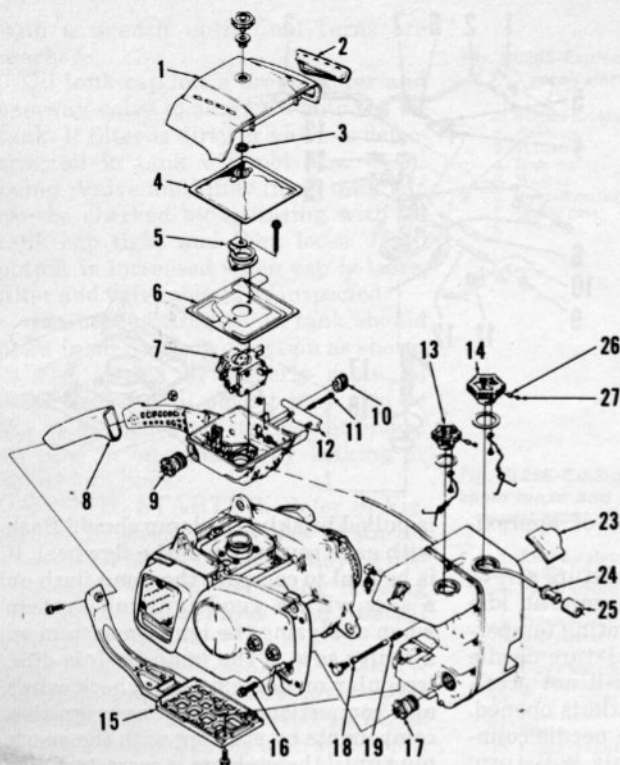

Fig. HL273—View of induction, fuel and oil assemblies.
Remove drive case cover, chain and bar, and bumper spikes. Remove throttle handle brace (15—Fig. HL273) and handlebar. Remove air filter cover and filter and disconnect choke rod from choke lever. Unscrew carburetor
Unscrew two front vibration isolator screws (16—Fig. HL273) and with a screwdriver, work isolators (17) clear of their sockets in drivecase wall and back plate. Remove fuel and oil tanks and disconnect oil line from oil tank. Unscrew vibration isolators (17) from tank. Note: Do not continue twisting isolator if it will not unscrew easily. It may be necessary to use a small pin punch or screwdriver placed against the rubber-to-metal bond and tapped with a hammer to unscrew isolator.